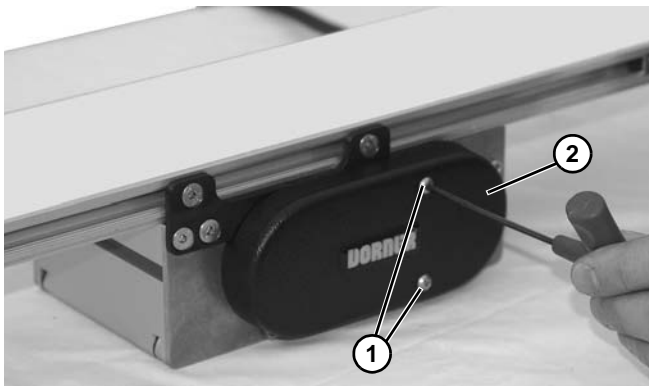

Figure 17
3. Remove two screws (**Figure 17, item 1**) and cover (**Figure 17, item 2**) from mid drive module.